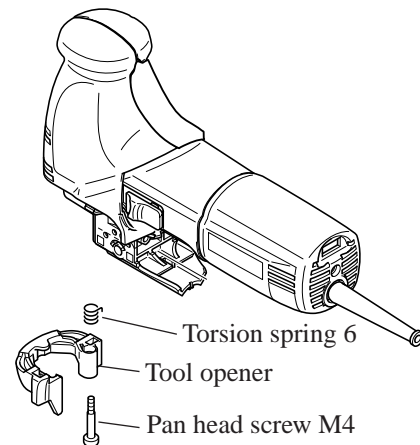
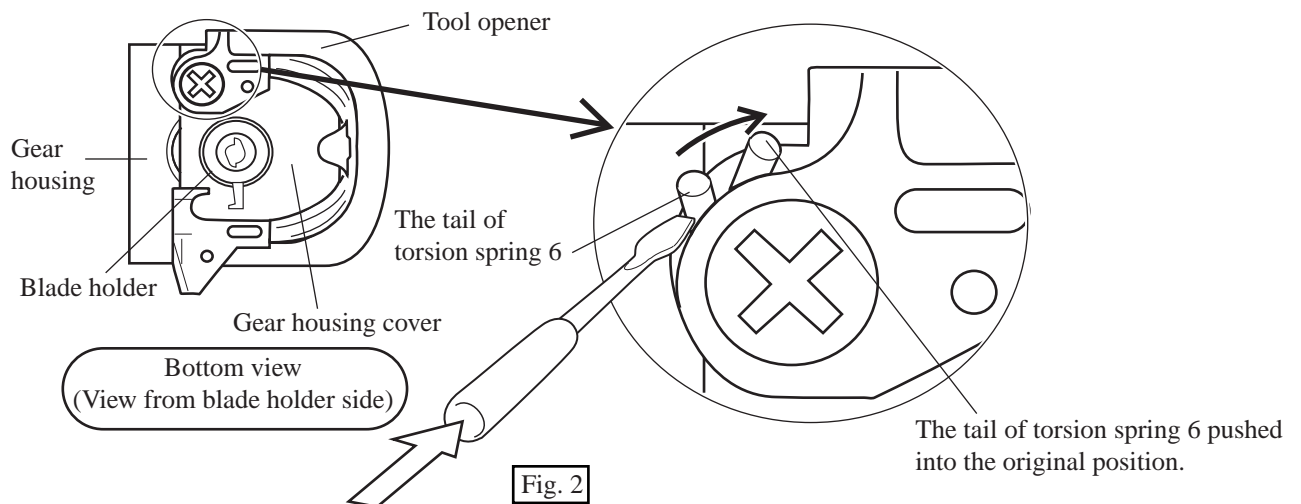

Fig. 1A
Fig. 2
2. Unscrew pan head screw M4. Then tool opener and torsion spring 6 can be disassembled. See Fig. 1A.
1. Put torsion spring 6 into tool opener. And fasten tool opener with pan head screw M4. See Fig. 1A above.
2. Bring the tail of torsion spring 6 which is extruding from tool opener, to the original position by turning it clockwise. See Fig. 2.
1. Assemble tool opener to gear housing cover with referring to Fig. 1A and Fig. 2 at page 6.